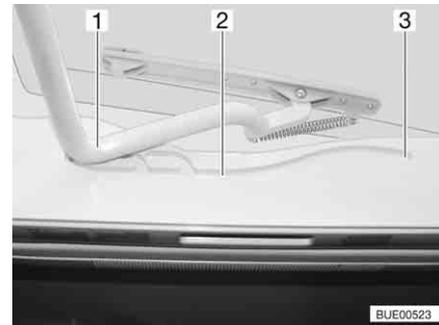

Fig. 81 Heki skylight, guide
- Pull the bar (Fig. 81,1) in the guides (Fig. 81,2) to the rearmost position (Fig. 81,3).
- Use both hands to push the bar (Fig. 81,1) slightly upwards.
- Pull the bar in the guides (Fig. 81,2) to the desired position.